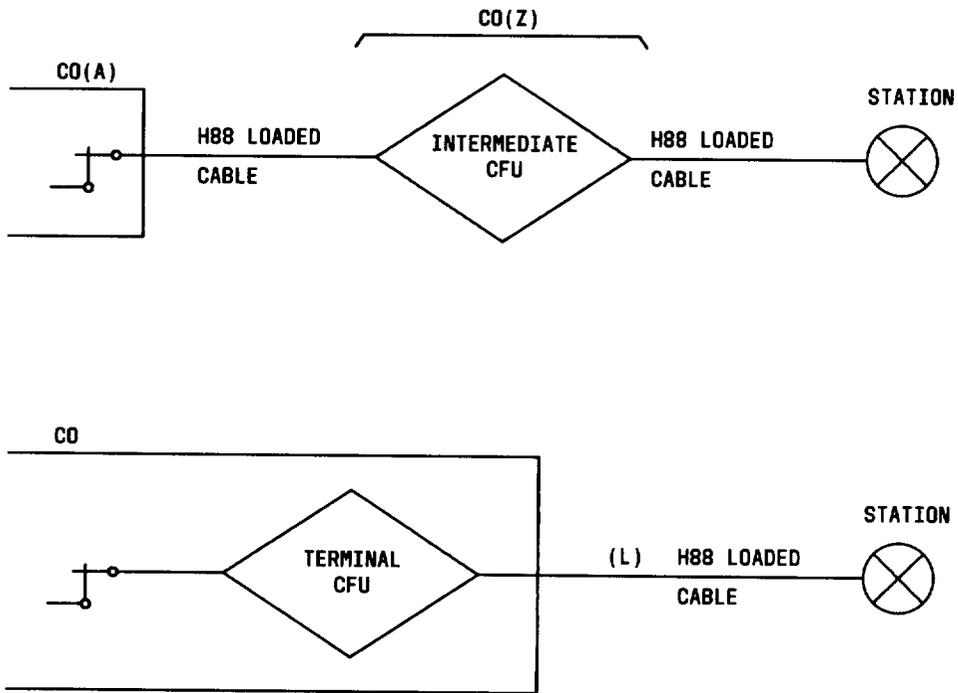

Fig. 9—Foreign Exchange Line Using J99343GF (L1&L2) and GJ CFUs
6.01 ♦The J99343GF (L1&L2) and GJ CFUs♦ may be used to provide gain and range extension on any 2-wire circuit between loaded (A-side) and loaded (B-side) facilities. Figure 9 shows a typical application using these CFUs with a foreign exchange (FX) line. These units also can be used on off-premises station (OPS) lines, wide area telephone service (WATS) lines, and other metallic facility special services. Additional application information can be found in Section 332-910-180.